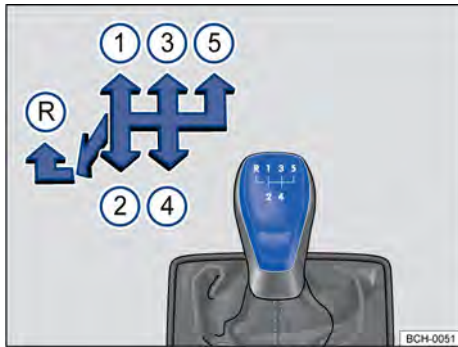

Fig. 90 Gear shift pattern of a 5-speed manual gearbox.
Each gear position is illustrated on the gear lever → Fig. 90.
- Push the gear lever fully to the left and then to the front in the reverse gear position → Fig. 90 (R).